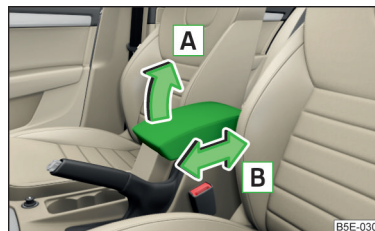

Fig. 76
➤ First of all, fold the armrest downwards and then lift it in the direction of the arrow **A** » Fig. 76 to one of the 4 rest positions. ▶
- Move the cover into the desired position in the direction of the arrow **B** » Fig. 76.